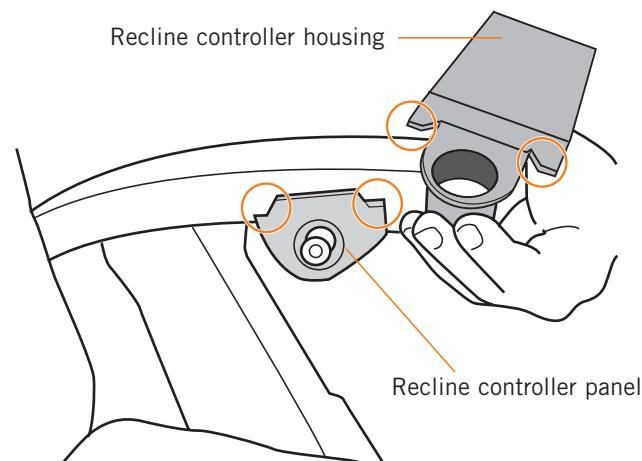

Fig.1
2. **PC-600/610:** Note the shape of the top of the recline controller panel and the matching shape of the recline controller housing (Fig.1).